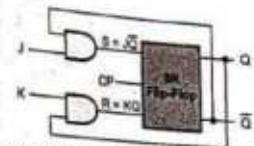

Fig. 5.4.16 JK flip-flop using SR flip-flop
- The data inputs are J and K which are ANDed with Q and  $\bar{Q}$ , respectively, to obtain S and R inputs, as shown in Fig. 5.4.16. Thus,  $S = J \cdot \bar{Q}$  and  $R = K \cdot Q$ .